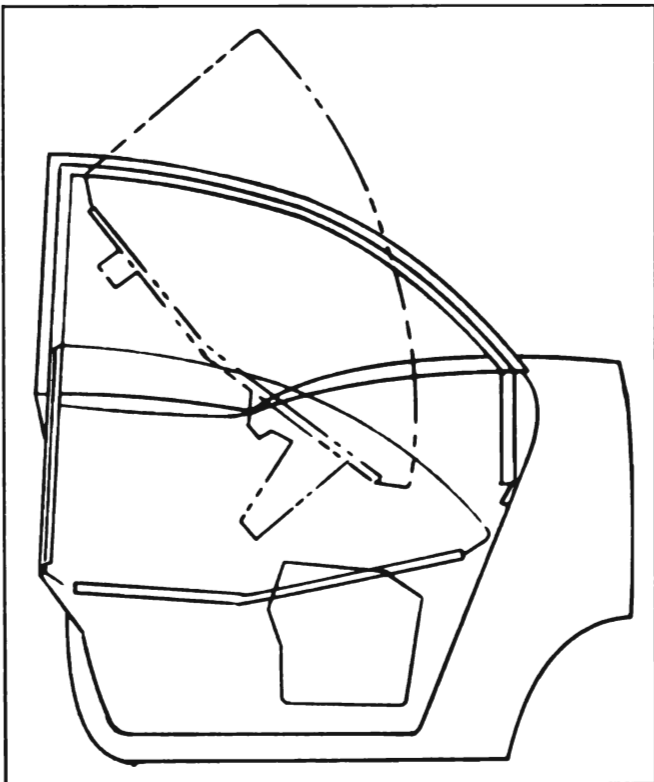

Figure 13-55—Rear Door Window Installation—Model 41
4. Carefully lift window upward and inboard to clear window frame as indicated in Figure 13-55 and remove window assembly from door.